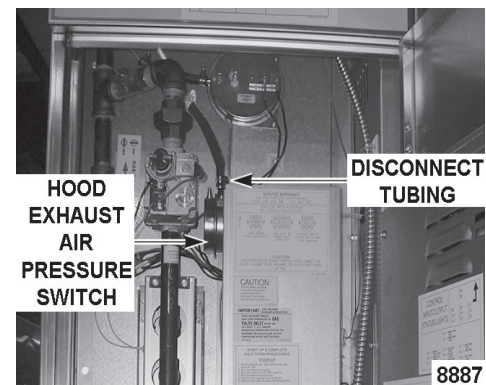

Fig. 14
2. Verify hood exhaust air pressure switch (Fig. 14) operation.